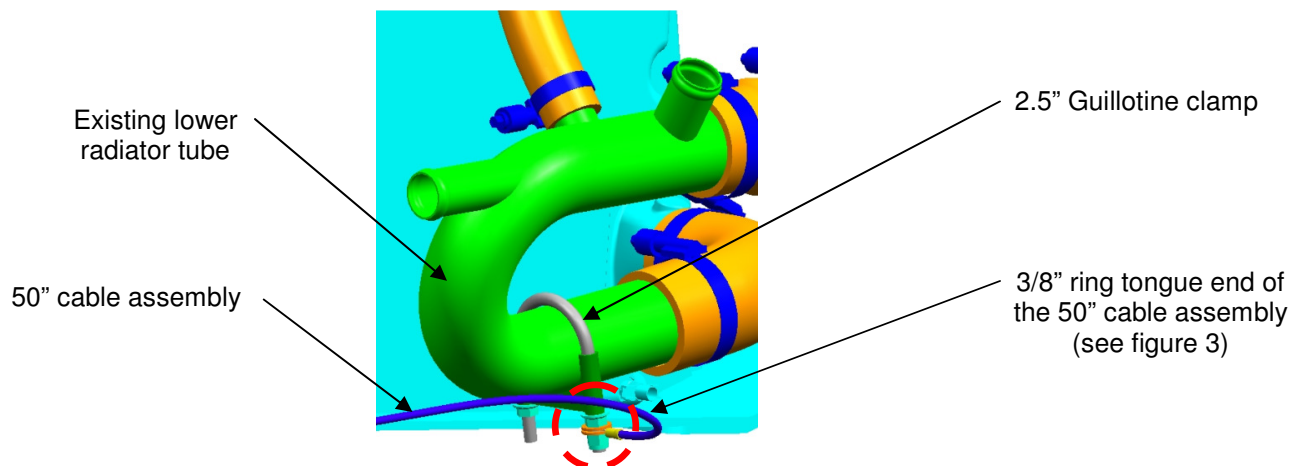

Figure 7: Lower Radiator Tube Ground Strap
12. Install one of the 2.5" guillotine clamps from the parts kit to the existing lower radiator tube at the approximate location and orientation shown in Figure 7, 8 and 9. Lower radiator tube may vary in appearance. Torque to 20 ± 2 ft*lbs.
13. Attach the 3/8" ring tongue end of the 50" cable to the stud of the clamp as per Figure 3. Secure using the hardware supplied with the clamp. Torque the hardware to 20 ± 2 ft*lbs. See Figure 7, 8 and 9.